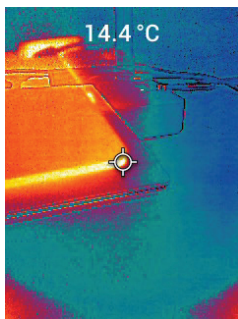

Figure 5.1 Combined Thermal and Visible Image (MSX®)
6. The temperature reading on the display represents the measurement of the targeted spot. See **Figure 5.1**.